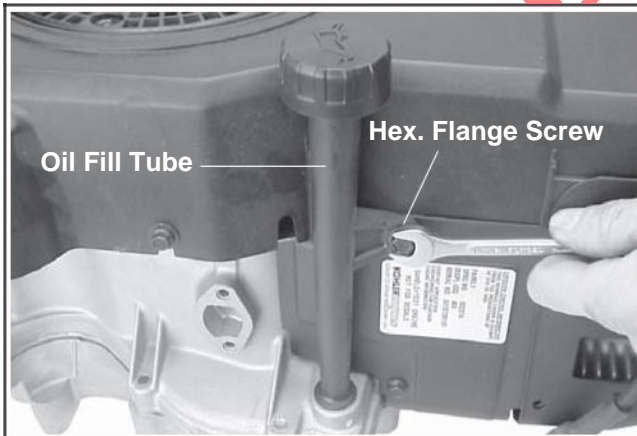

Figure 9-14. Removing Oil Fill Tube.
1. Remove the hex. flange screw securing the oil fill tube to the blower housing/crankcase. See Figure 9-14.